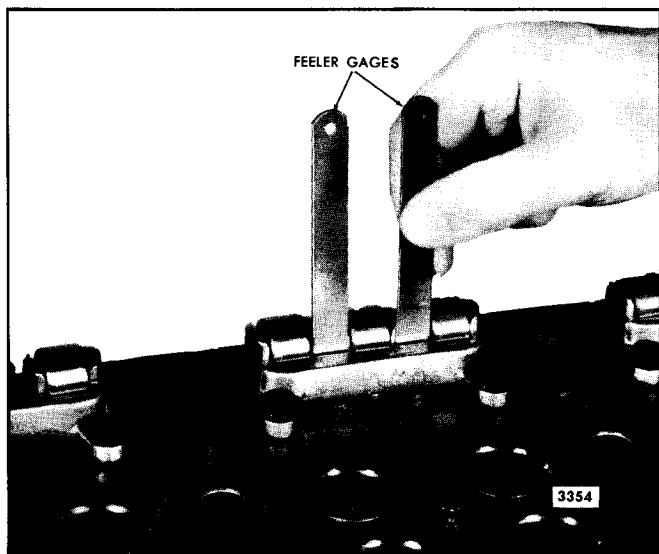

Fig. 9 - Checking Cam Follower to Guide Clearance
4. Attach the follower guide to the cylinder head to hold the group of three cam followers in place. Tighten the guide bolts to 12-15 lb-ft (16-20 N·m) torque. Check to be sure there is at least .005" clearance between the cam follower legs and the cam follower guide (Fig. 9). If there is insufficient clearance, loosen the guide bolts